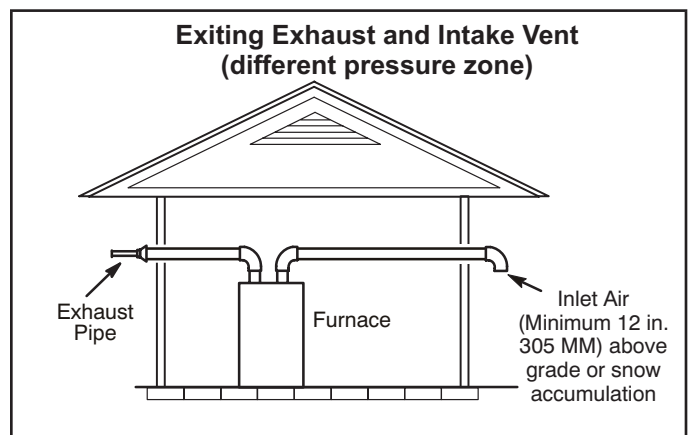
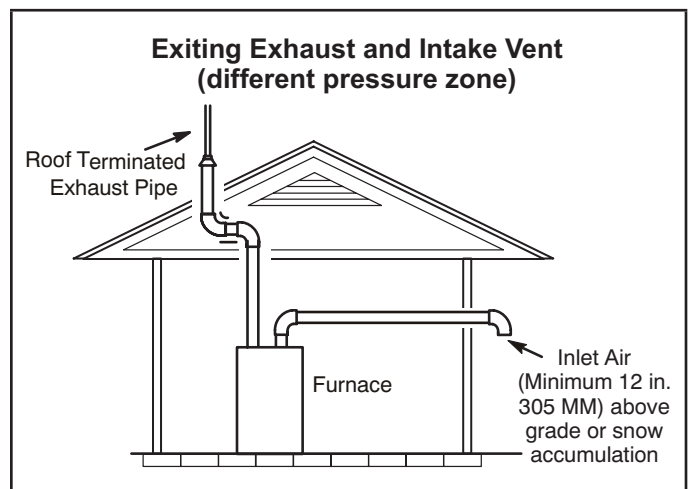

FIGURE 28
FIGURE 29
- 1 - Intake and exhaust terminations are not required to be in the same pressure zone. You may exit the intake on one side of the structure and the exhaust on another side (FIGURE 28). You may exit the exhaust out the roof and the intake out the side of the structure (FIGURE 29).